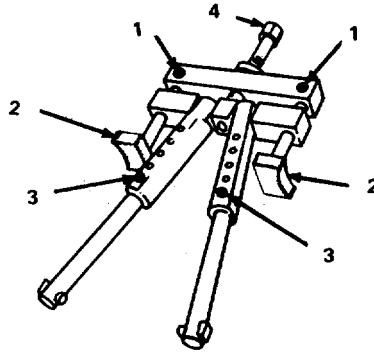

FIGURE 4-77. Cylinder Liner Puller.
- (1) Loosen set screws (1, FIG. 4-77) on cylinder liner puller.
- (2) Turn feet (2) until the curved side is turned from the center.
- (3) Move holding pins (3) to last hole.